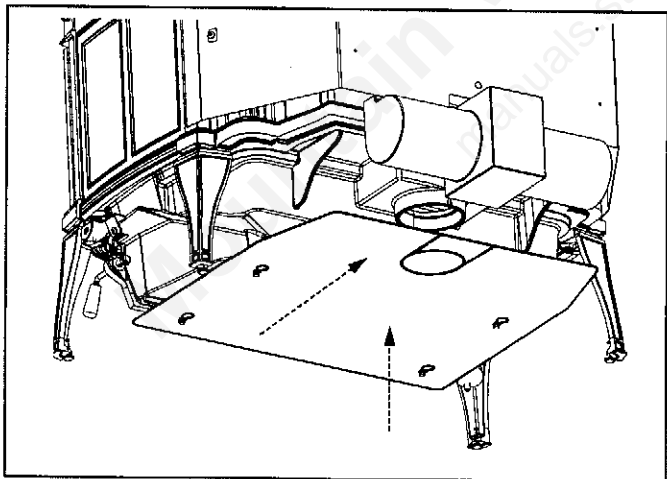

Figure 2
2. Pass all four bolts through the large end of the keyholes and then pulling the shield forward to engage the smaller ends of the keyhole slots. The outside air cutout hole should be toward the rear of the stove. Figure 2